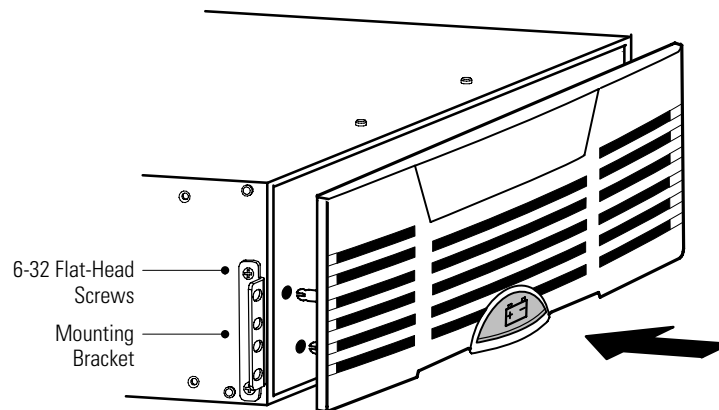

Figure 14. Installing the EBM Mounting Brackets
8. If the mounting brackets are not already installed, align the two mounting brackets with the screw holes on the side of the EBM and secure with the supplied 6-32 flat-head screws (see Figure 14).
Align the pins on the rear of the front cover with the openings in the EBM. Push the cover firmly into place. See Figure 14.